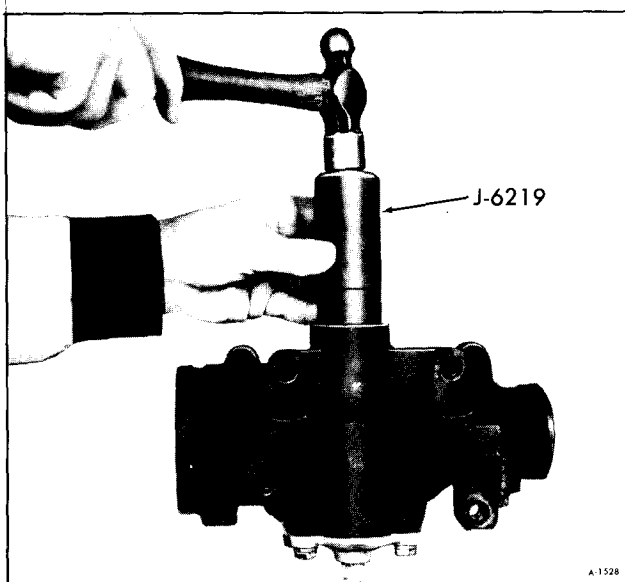

Figure 48—Installing Pitman Shaft Seals
7. Lubricate the seals thoroughly with Power Steering Fluid to install seals with Installer J-6219 (figure 48). Install the inner single lip seal first, then a back-up washer. Drive seal in far enough to provide clearance for the outer seal, back-up washer and retaining ring. Make sure that the inner seal does not bottom on the counterbore. Install the outer double lip seal and the second back-up washer in only far enough to provide clearance for the retaining ring. Install retaining ring.